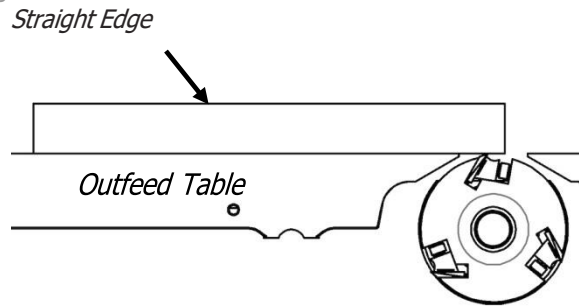
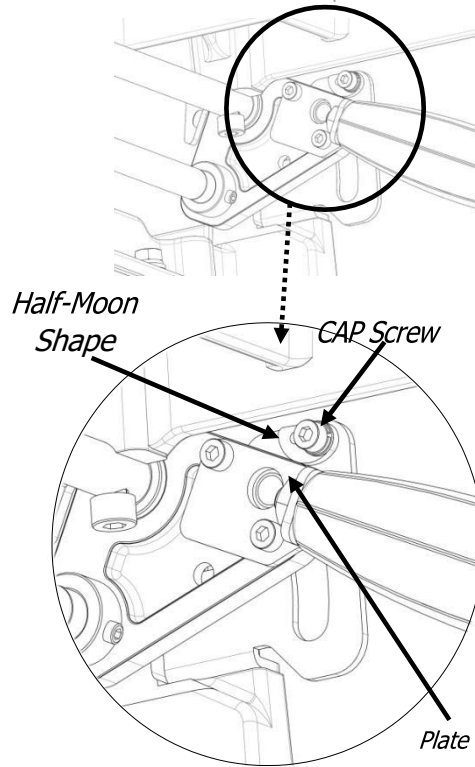

Figure 23: Checking Outfeed Table
FIG. 25: Back View of Outfeed Table Adjustment
STEP 2: Place a straight edge on the outfeed table halfway over the cutterhead as shown in **FIG. 23**. Rotate drive belt, if necessary, to bring an insert knife to top-dead-center for referencing to straight edge.
STEP 4: Loosen cap screw on the back (inside) of the outfeed table adjustment lever as shown in **FIG. 25**. Lower the outfeed table to adjust the straight-edge level with the top dead center of the knife inserts as in **FIG. 23**.